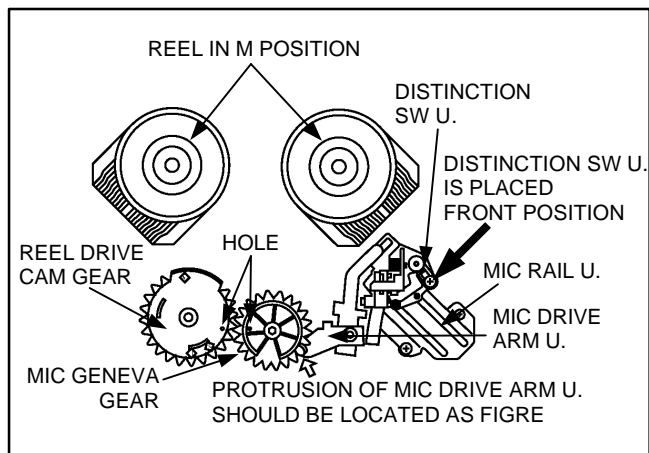

Figure 1-29-3
4. Place the REC Inhibit SW in front position on Distinction SW Unit by rotation of MIC Geneva Gear, and then MIC Geneva Gear should be positioned as shown in Figure 1-29-3.
Protrusion of MIC DRIVE Arm Unit is positioned as shown in Figure 1-29-3.
5. Install the Reel Drive Cam Gear and hole of Reel Drive Cam Gear should be matched with the hole of MIC Geneva Gear as shown in Figure 1-29-3.
- 3) Protrusion of MIC Drive Arm Unit is positioned as shown in Figure 1-29-3.